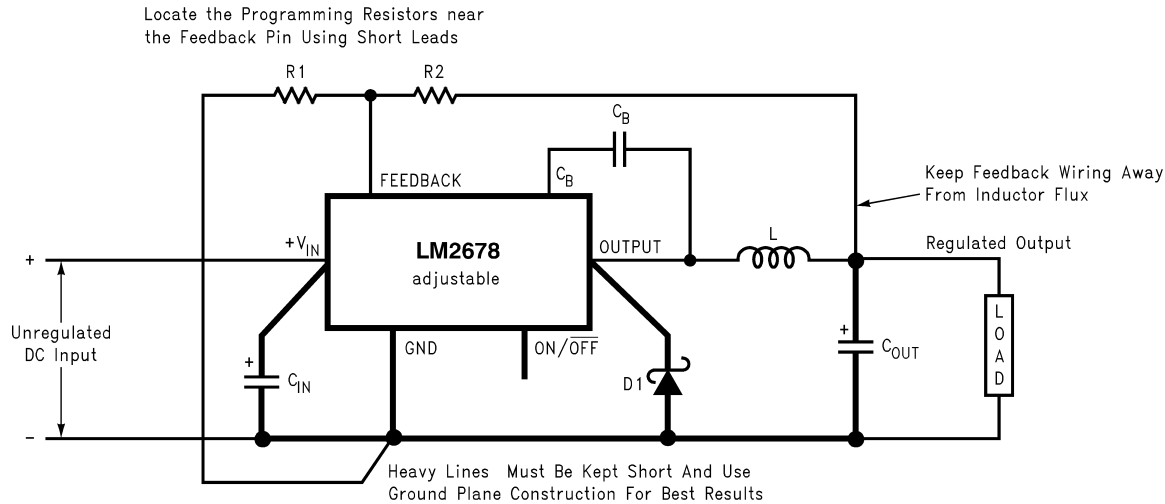

FIGURE 2. Basic circuit for adjustable output voltage applications
Step 2: Select an LM2678S-ADJ. To set the output voltage to 14.9V two resistors need to be chosen (R_1 and R_2 in *Figure 2*). For the adjustable device the output voltage is set by the following relationship: